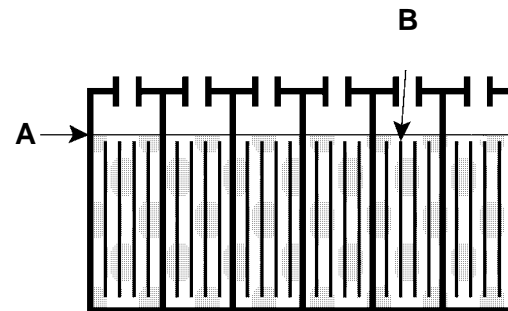

FIG. 17
4. Check fluid level (A) in each battery cell before charging. If battery plates (B) are exposed, add just enough distilled water to cover plates by approximately 3 mm (0.13 in). DO NOT OVERFILL. Overfilled batteries can overflow during charging due to fluid expansion. Replace cell caps before charging (Figure 17).